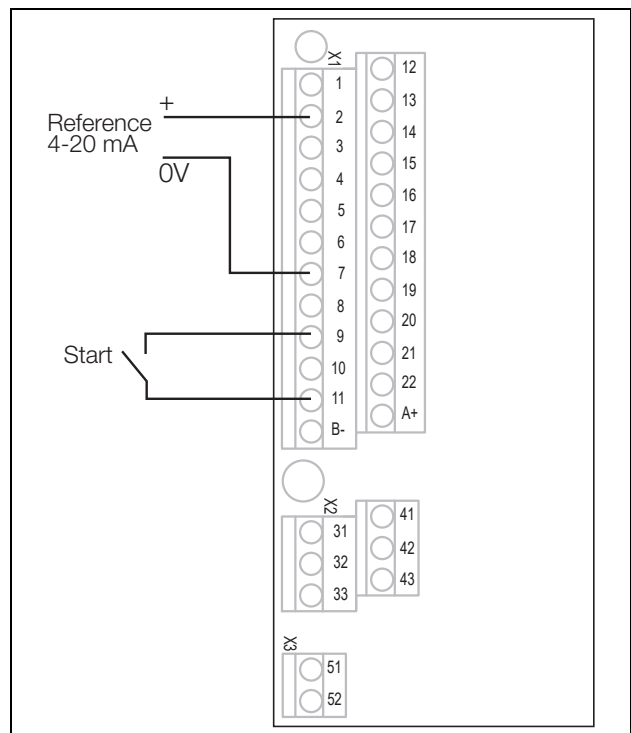

Fig. 74 Wiring
2. Connect a reference value between terminals 7 (Common) and 2 (AnIn 1) as in Fig. 74.
3. Connect an external start button between terminal 11 (+24 VDC) and 9 (DigIn2, RUNR) as in Fig. 74.
14. Connect digital and analogue inputs/outputs as in Fig. 74.